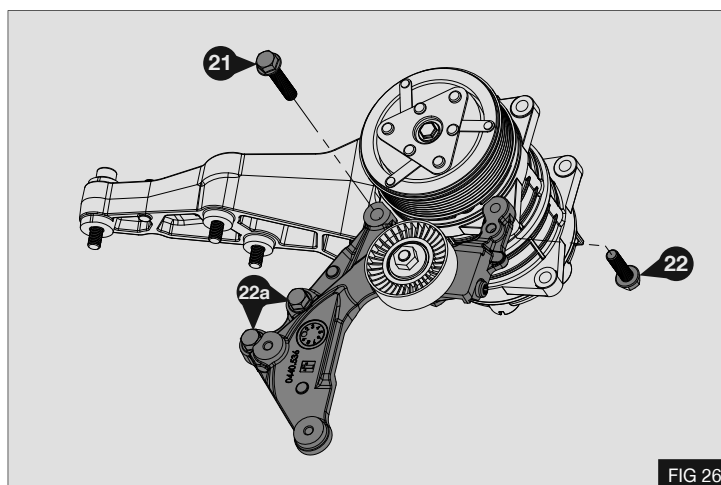

FIG 26
7. Insert M10x50 bolt (21) and M10x35 bolt (22) through the lower front compressor ears as shown opposite. Torque bolts (21) and (22) to 58Nm / 43lb. ft. - Fig 26
8. Torque bolts (22a) securing the adjuster bracket to 58Nm / 43lb. ft. - Fig 26